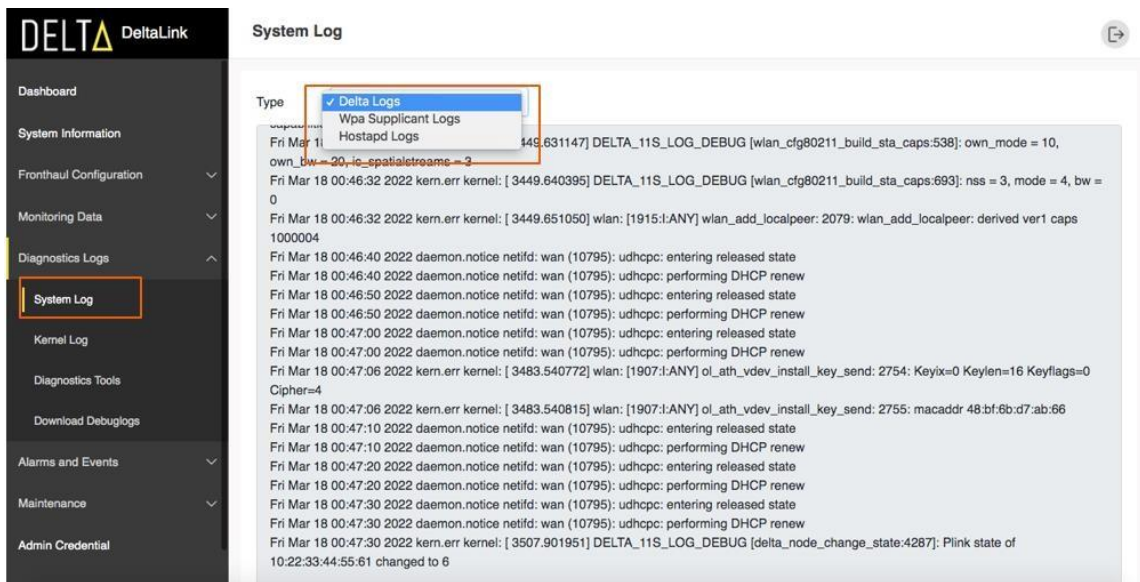

Figure 46 System Log
- Navigate to “Diagnostics Logs” and select “System Logs” from the expanded menu as shown in the Figure 46.